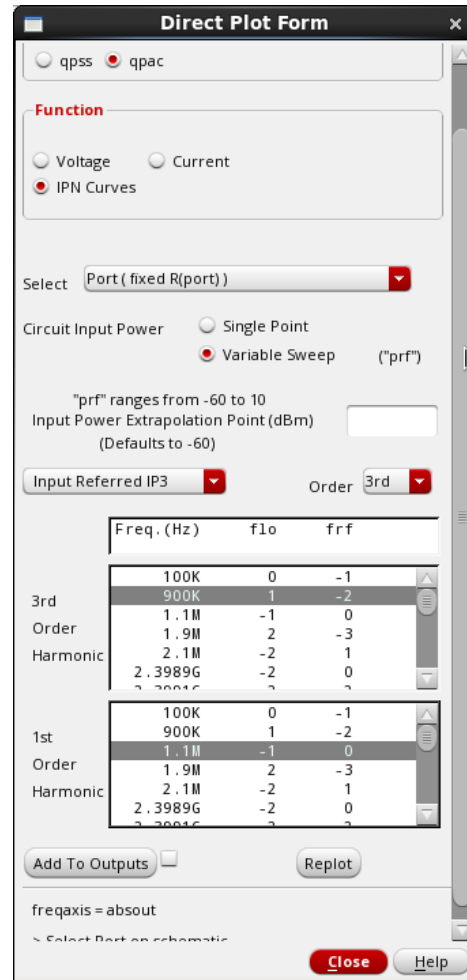

Fig.18
- Plot IIP3 from Results/Direct Plot/Main Form/QPAC, select the options as shown in Fig. 18 and click on the output port.